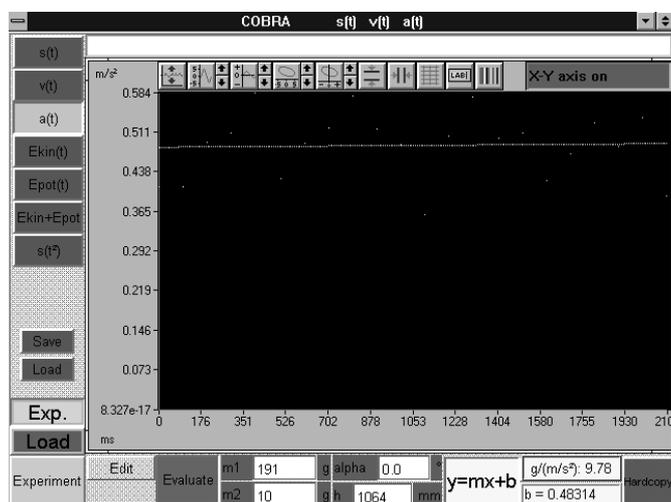

Fig. 5: Acceleration-time law.
- The time dependence of the acceleration can be displayed by means of $\langle a(t) \rangle$ (Fig. 5). The scaling difference for a must be taken into account: for $\langle a(t) \rangle$, the acceleration unit is m/s^2 whereas for the regression straight lines in the $\langle v(t) \rangle$ picture, the unit of slope m is $\text{m}/(\text{s} \cdot \text{ms})$. This explains the factor 1000. As shown in Fig. 5, for a uniformly accelerated movement, acceleration is constant as a function of time. If $\langle y=mx+b \rangle$ is pressed, earth gravitational acceleration calculated using the measurement is displayed. The following relation also is valid: